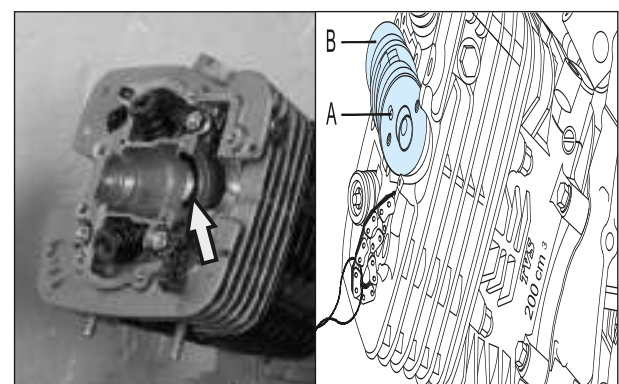

Fig. 3.154
- Insert the C-ring cam shaft on cylinder head groove.(Fig. 3.154)
- Assemble the cam shaft complete on the cylinder head (B) .(Fig. 3.154)
- Insert the pin sprocket knock to the cam shaft complete (A) .(Fig. 3.154)